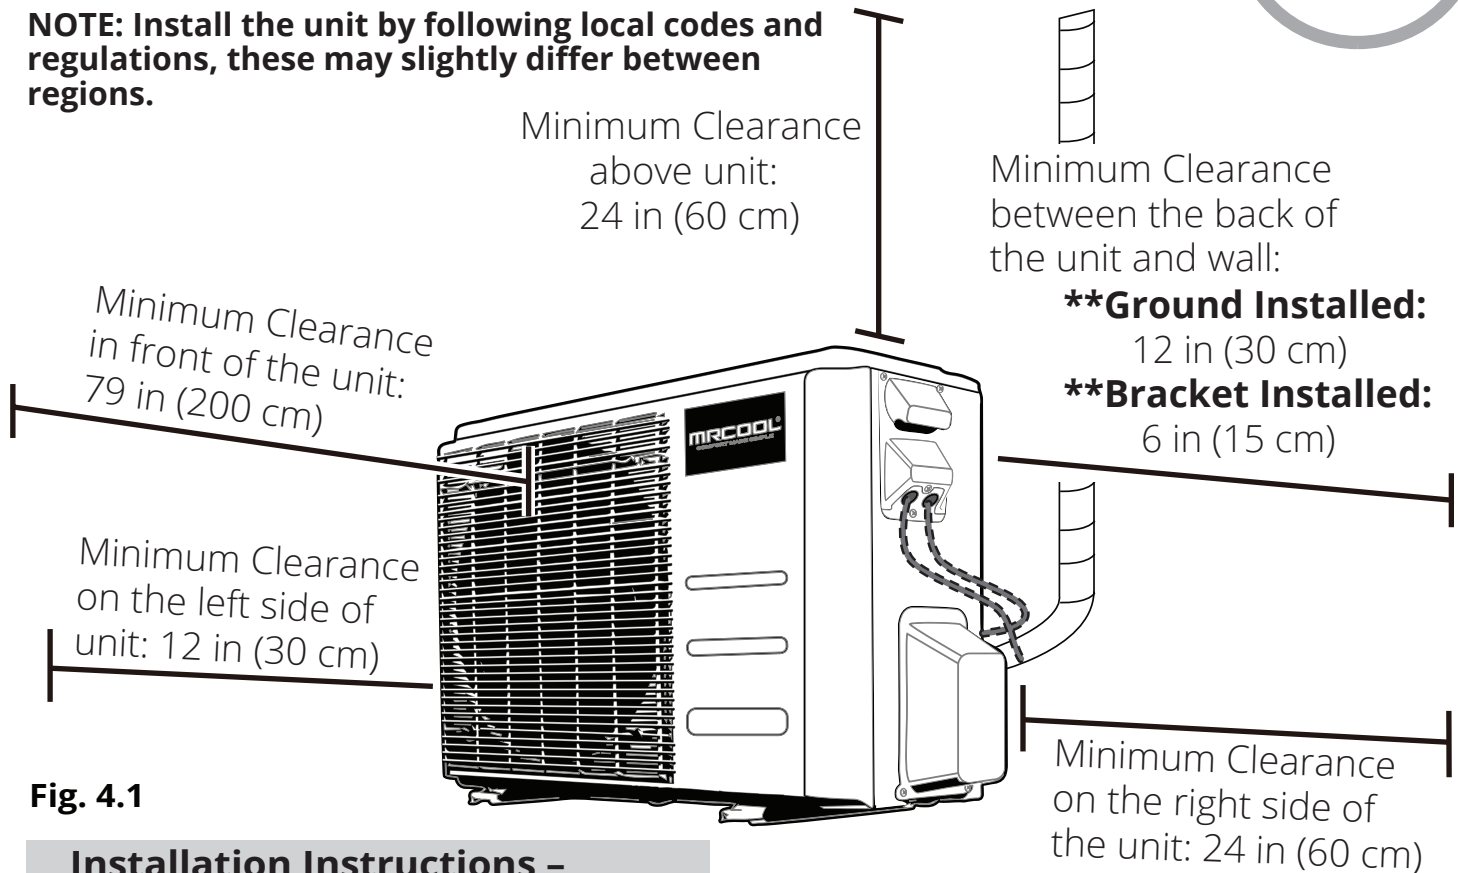

Fig. 4.1
- ✓ Meets all spatial requirements shown in the illustration above (Fig. 4.1)